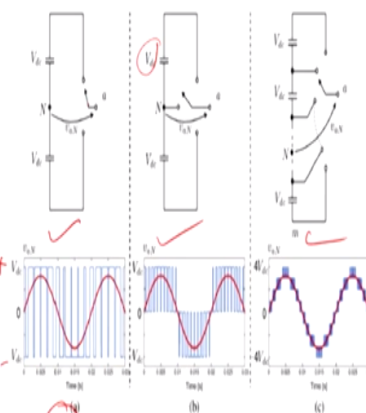

Fig.6) Converter output voltage waveform:
- Fig.6 shows some single phase examples of multilevel concepts and their respective waveform.